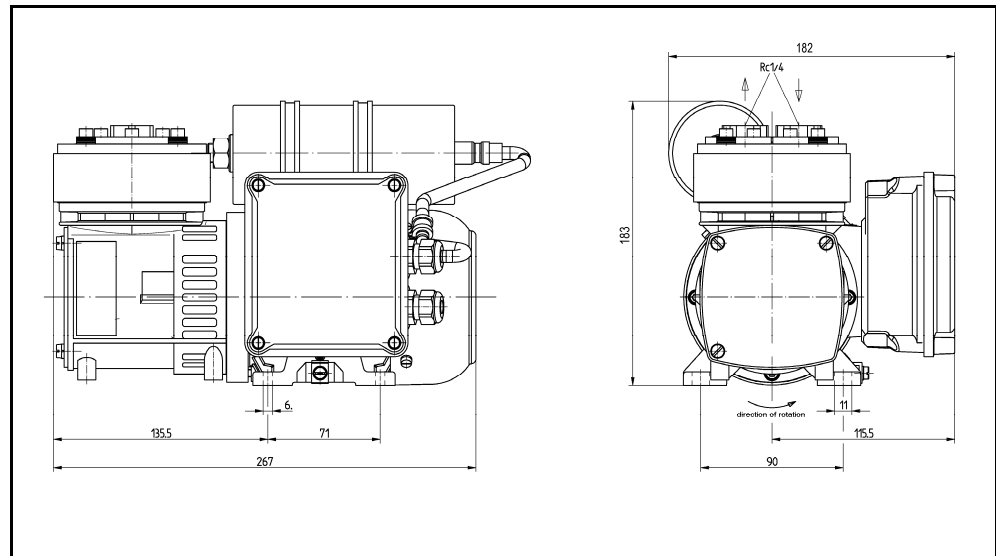

Fig. 3: Mounting dimensions
Mounting dimensions → See Fig. 3 for the mounting dimensions.
2. Connect the suction line and pressure line (for thread size and flow direction see Fig. 3).